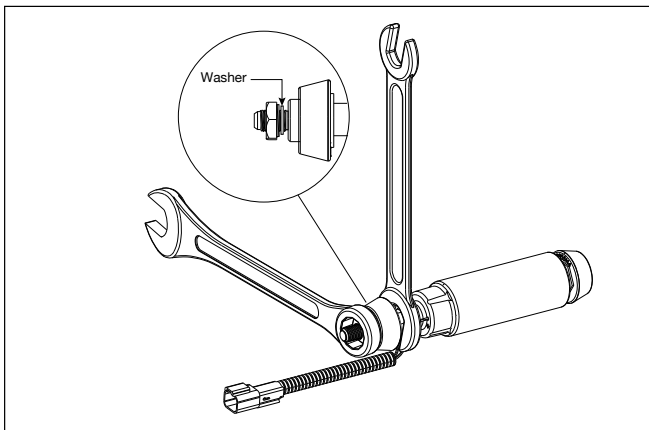

Figure 6 - Removing the Primer Pump Fitting
6. Remove the fitting on the end of the pump using two wrenches to hold the end stationary as the fitting is loosened. See Figure 6.